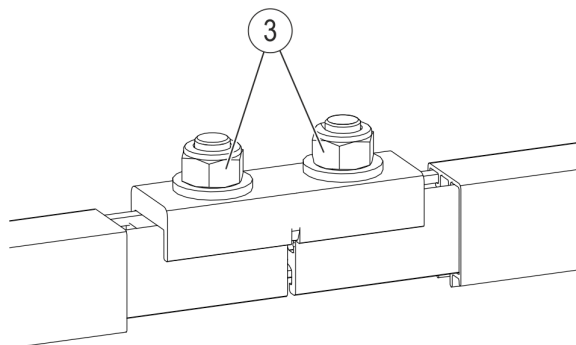

Fig. 78: Tighten nuts M10/M12
- Mount the connector (Pos. 1) with notch cable lugs (Pos. 5), as described in Section 6.4.3.4, with the prescribed torque (SW 13, torque wrench **10 Nm** for stainless steel nuts, **12 Nm** for galvanized nuts) (see Fig. 78).